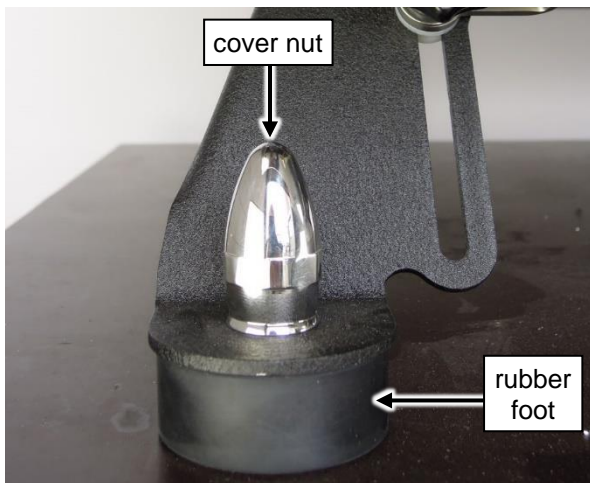

Figure 8. Adjust the height of an individual leg. Loosen the cover nut, “unscrew” the foot from the leg until correct height is reached, then tighten cover nut.
7. When necessary, adjust the feet such that the machine is level and all feet are firmly touching the countertop. The rubber feet can be individually lowered: loosen the cover nut first, then “unscrew” the foot from the leg. When correct height is achieved, tighten the cover nut (see Figure 8).